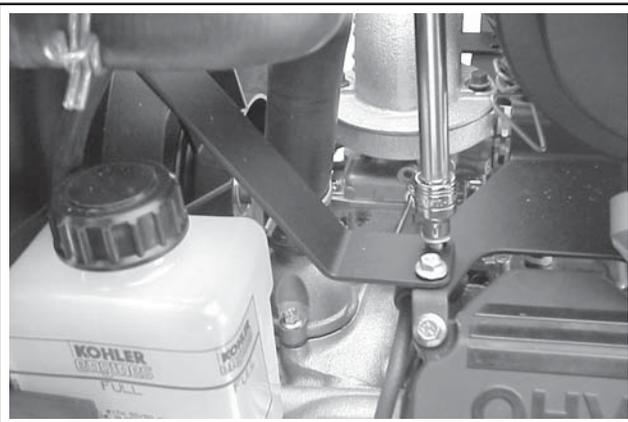

Figure 9-11. Remove Upper Radiator Support Screws.
4. Remove the four screws securing the two upper radiator supports to the air cleaner mounting bracket. See Figure 9-11.